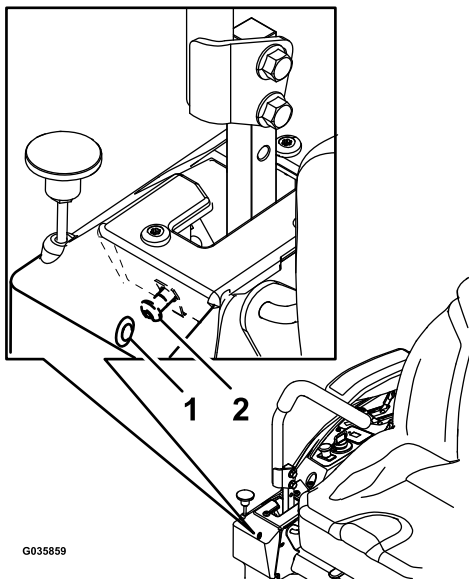

Figure 58
6. If the machine tracks to the right, insert a 3/16 inch hex wrench through the access hole in the right front cover panel and rotate the tracking screw clockwise or counterclockwise to adjust the travel of the lever (Figure 58).
7. If the machine tracks to the left, insert a 3/16 inch hex wrench through the access hole in the right front cover panel and rotate the tracking screw clockwise or counterclockwise to adjust the travel of the lever (Figure 58).